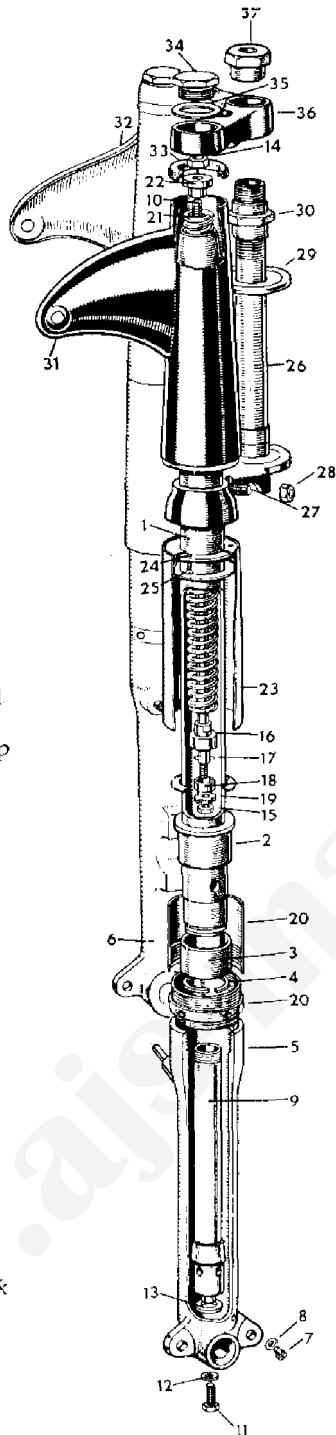

FIG. 116
**Lubrication.** Use one of the grades of oil, S.A.E. 20 as shown in the table of lubricants. The normal oil content is five fluid ozs. (142 cc). Attention is only necessary at the first 1,000 miles and again at 10,000 miles when the oil should be changed by draining. An exploded drawing of the front forks is shown in (Fig. 116) from which it will readily be seen that the fork springs abut against the filler plugs (34), before removing these plugs weight must be taken off the front wheel, by placing the machine on its central stand to avoid the forks collapsing.
**To drain the forks.** With the machine on the central stand: Unscrew the two filler plugs (34). Have available a container to catch oil drained, then remove the drain plug screw (7) with its washer, with the container under the fork leg. If the wheel is inclined to one side, draining will be more complete. Deal with the other fork leg in a similar manner.
**To remove the forks as a unit.** Follow the instructions given for removing a fork leg, as far as disconnecting the filler plugs from the damper rods. Proceed by taking off the headlamp leaving it suspended by the loom. Separate the control cables from the levers, and remove handlebars. Remove the column nut (37) then give the underside of the handlebar lug one or two blows with a mallet until it is clear of the fork tubes. At this stage support the ends of the forks, for after removing the sleeve nut (30) the forks will drop out. Watch for the steel balls for the races, there are 18 in each race (36 in all) if a steering damper is fitted detach the fixed plate from the frame.
**To dismantle a fork slider.** Remove from the fork slider the bolt fixing damper tube (11). Unscrew the bottom cover (23), holes are provided for a C spanner. Take away the fork slider (5).
The damper tube with the fork spring can be extracted from the tube. To dismantle further, take off nut securing fork spring, unscrew the damper tube cap (16) with a tommy bar through the holes in the damper tube, for if this is held in a vice it will distort and become useless. The damper assembly sequence is clearly depicted in Fig. 116.